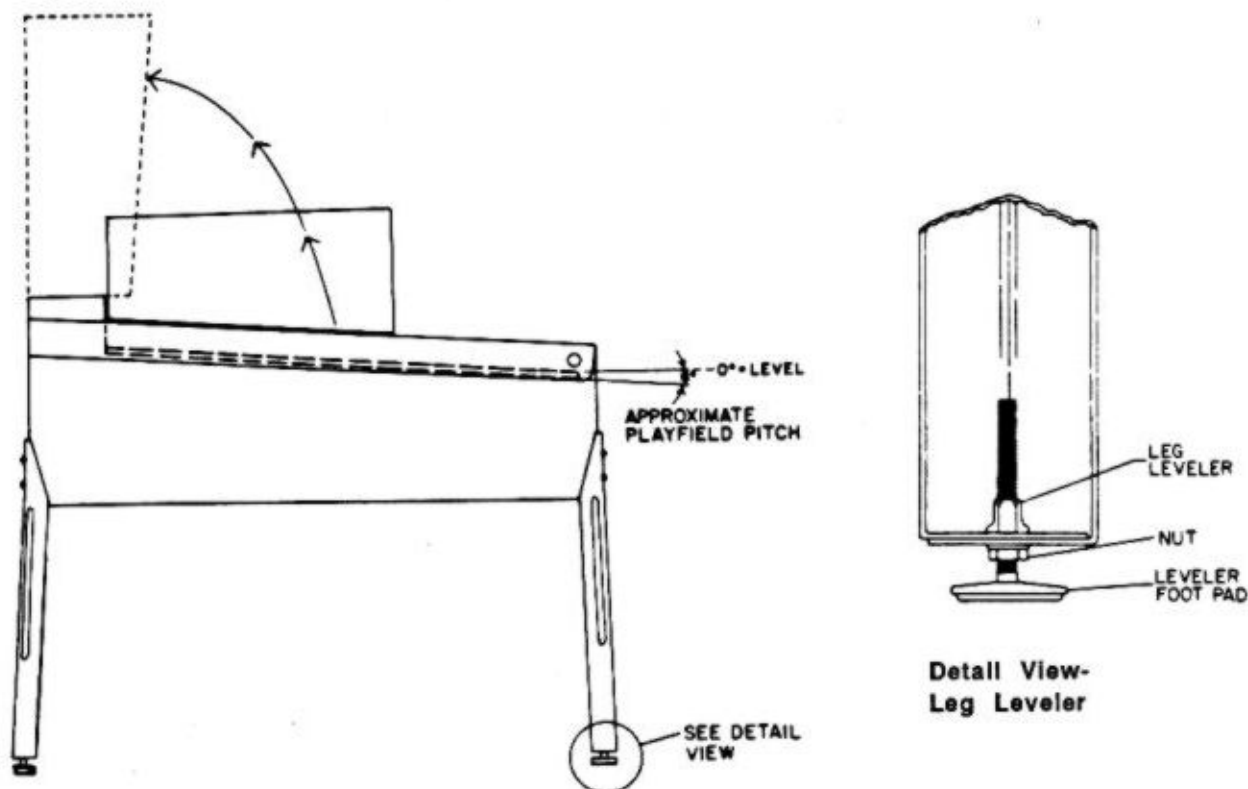

Figure 1. Pinball Assembly, Playfield Pitch Angle, and Leg Leveler Details.
3. Attach the front legs (after installing leg levellers), using leg bolts. See Figure 1 for details.
8. Remove the playfield cover glass to permit accurate measurement of the playfield level and pitch. Level (side-to-side) the playfield (preferably measured ON the playfield surface), and firmly tighten the nut on each leg leveler shaft to maintain this level setting, as shown in Figure 1.